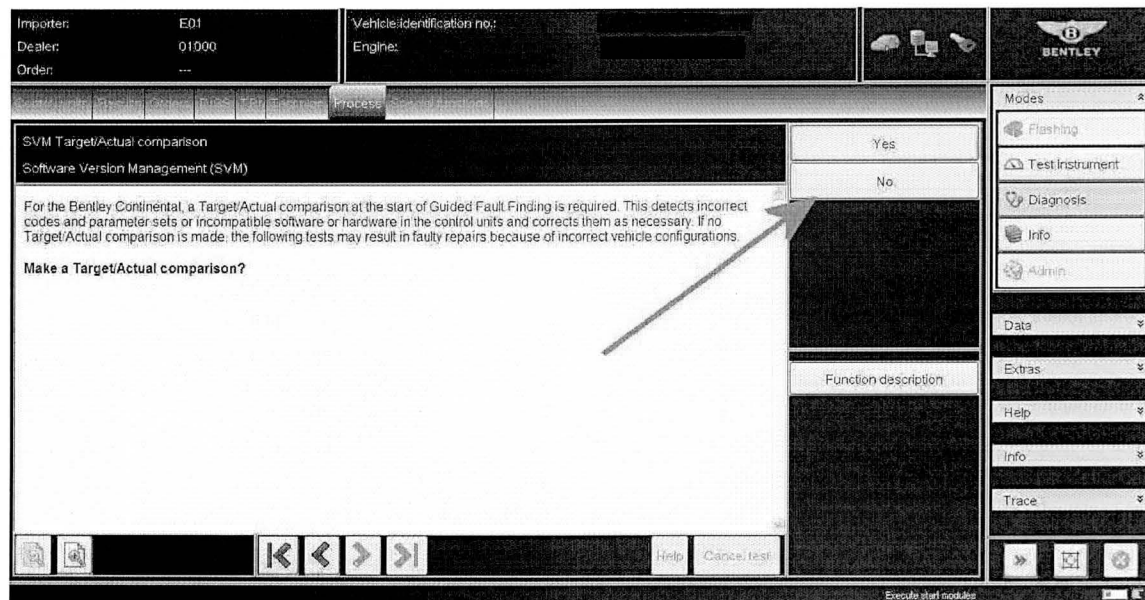

Figure 4
2. When requested to Make a SVM Target/Actual comparison? Please select No (Figure 4)